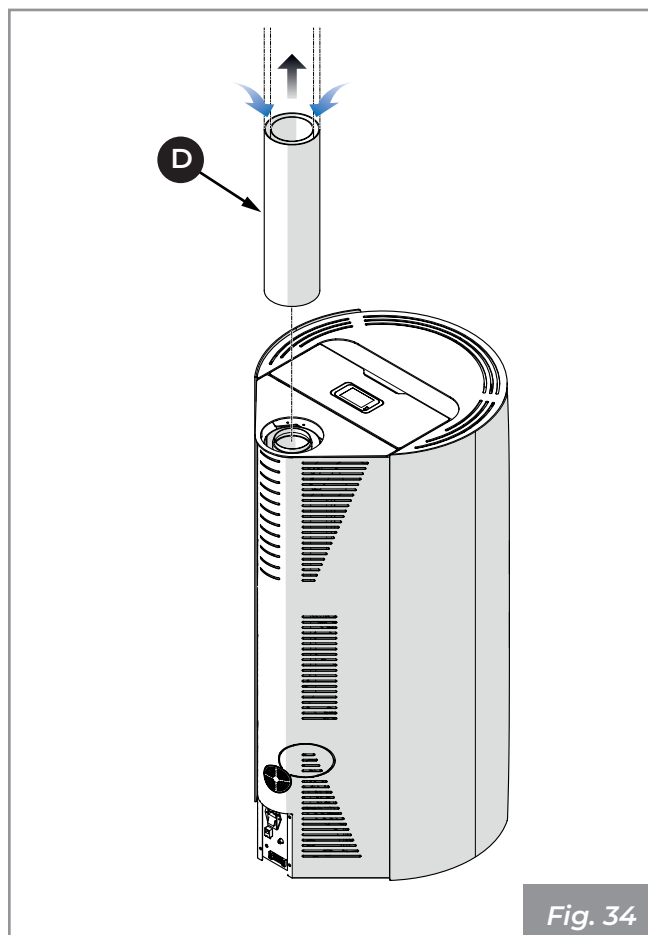

Fig. 34
- Conectar el tubo coaxial **(D)** (**Fig. 34**).